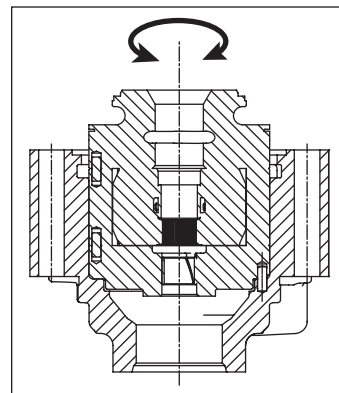

Figure 67
7. Check if the dowel pin is in its position in the housing by trying to rotate the cartridge (**Fig. 67**).